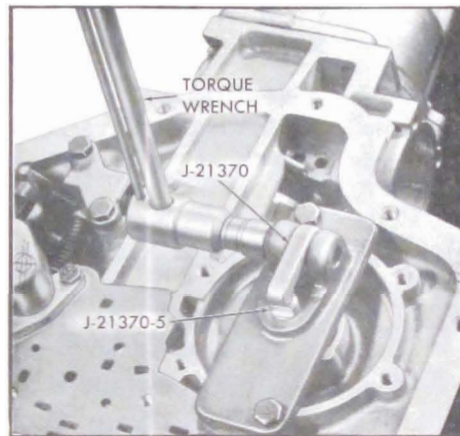

Figure 5-520
b. Apply 25 ft. lb. torque and select proper pin to be used during assembly of transmission. See Figure 5-520.